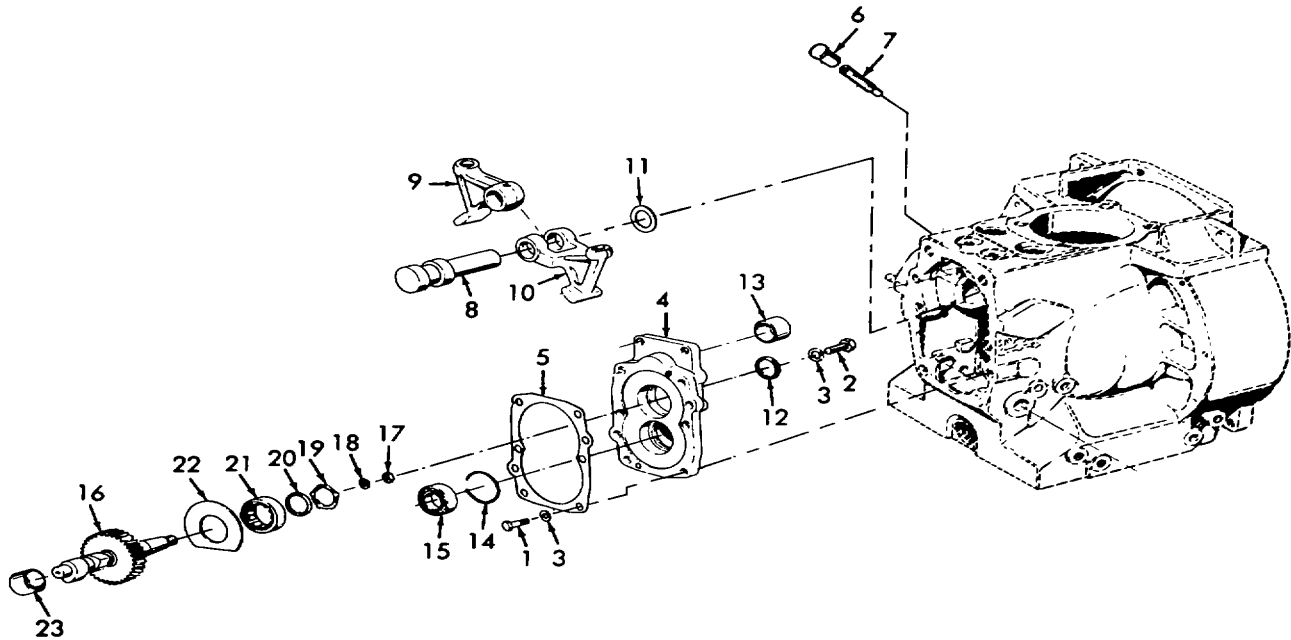

Figure 6-7. Timing Cover and Camshaft Removal/Disassembly.
- a. Removal. (Refer to figure 6-7).
- (2) Remove and discard gasket (5).
- (3) Remove plastic plug (6) above fuel injection pump, and remove setscrew (7) from crankcase.
- (4) Remove spindle (8), cam followers (9 and 10), and shim (11) from crankcase using extractor.
b. Disassembly. (Refer to figure 6-7).
- (1) Remove oil seal (12) from timing cover (4). Discard oil seal (12).
- (2) Collapse dry bushing (13) and remove.